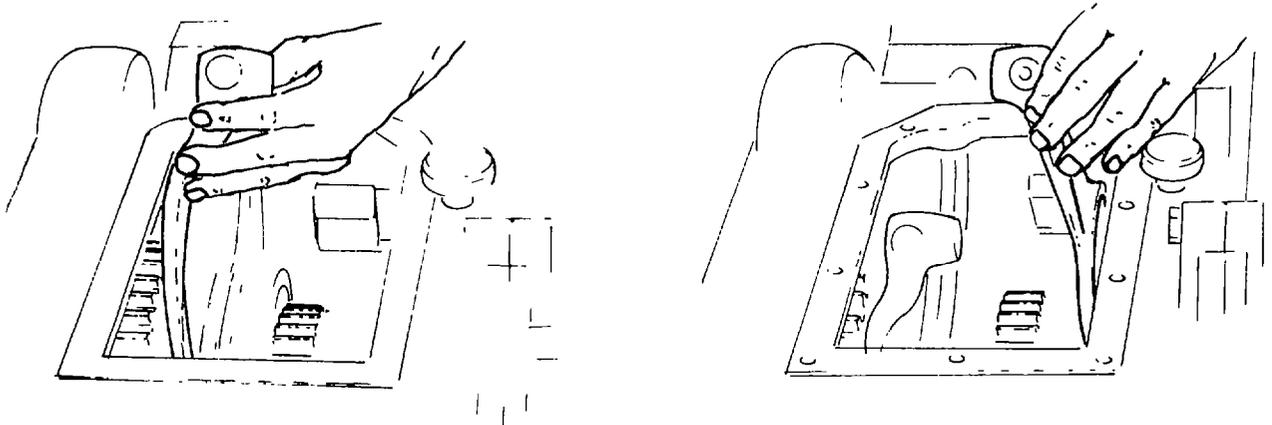

Fig. 212 — Installing First and Reverse Selector Forks
- ac. Install the reverse selector fork on the reverse sliding gear and install the first gear selector fork on the first-gear sliding clutch (see fig. 212).